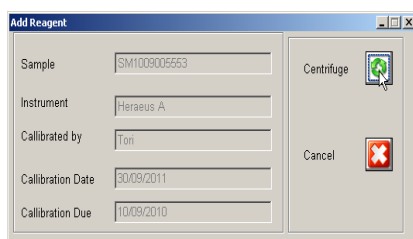
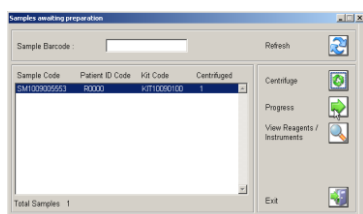
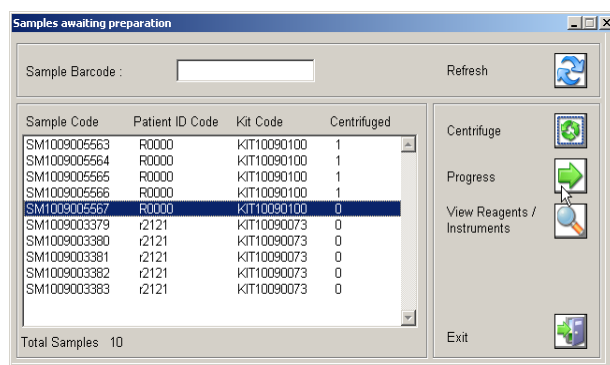

Figure 4 – 'Add reagent' screen
Figure 5 – 'Samples awaiting preparation' screen
Figure 13 - 'Samples Awaiting Preparation' screen
3. The **'Add Reagent'** screen (Figure 4) will appear, Click on the **'Centrifuge'** icon the **'Samples Awaiting Preparation'** screen will appear (Figure 5). Select the **'Progress'** icon  then exit by selecting the **'Exit'** icon .
5. Select the **'Centrifuge'** icon  from the Plasma Workflow, making the **'Samples Awaiting Preparation'** screen appear. Highlight the sample to be centrifuged by clicking on it and select the centrifuge icon  (Figure 13). This will cause **'Add Reagent'** screen (Figure 4) to appear to match the centrifuge to the sample. Select the **'Centrifuge'** icon. A number 1 will appear on the **'Samples Awaiting Preparation'** screen indicating the sample has been centrifuged. For each sample centrifuged and logged, click on the **'Progress'** icon  and then **'Exit'** .